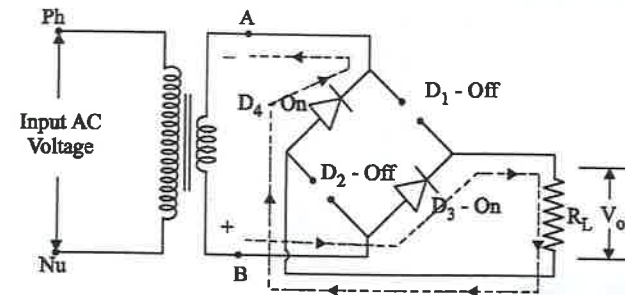

Fig. 3.56
- » It is shown in below fig. 3.56